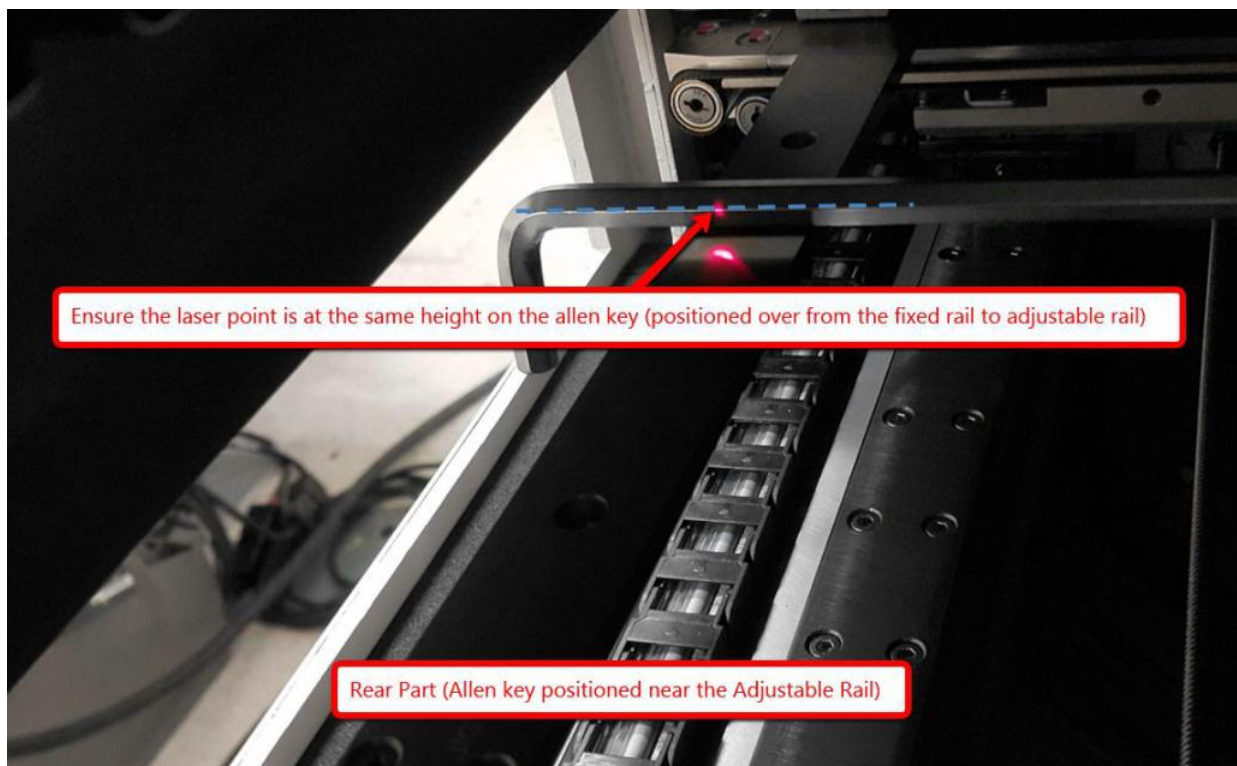
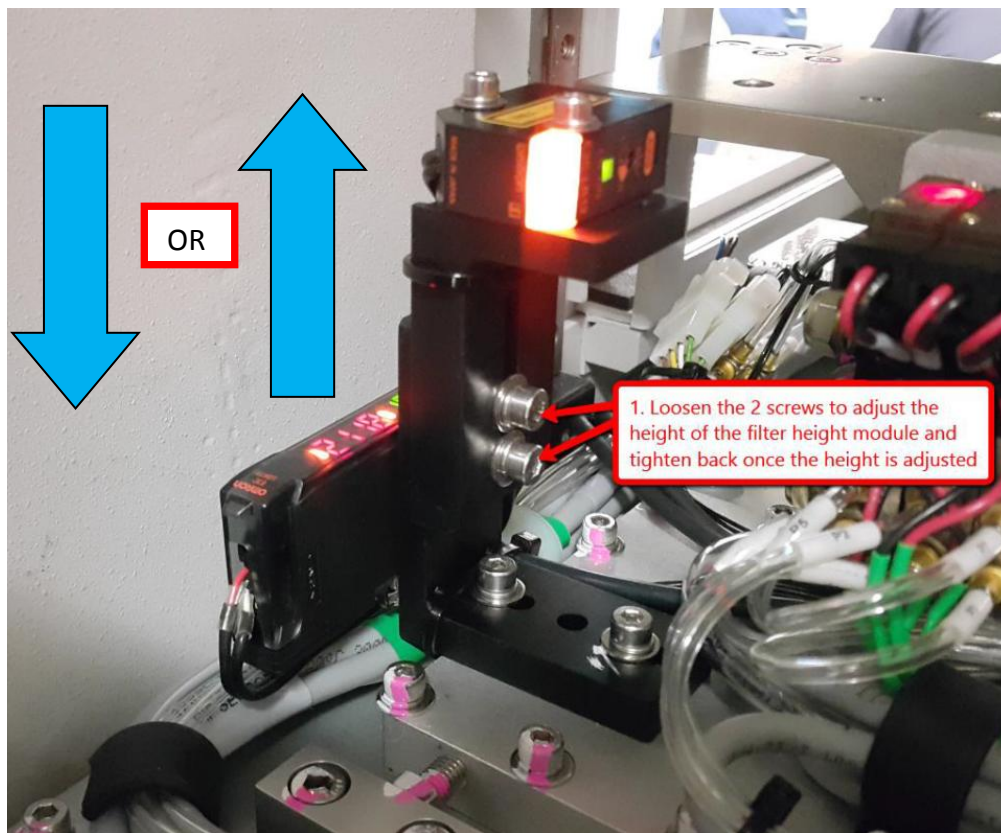

Figure 13 Filter Height Sensor Spot Linear Positioning
Figure 14 Filter Height Sensor Adjustment
3. Position Filter Height Jig on AWA. Place M10 Allen Key respectively at front (Figure 13) and rear (Figure 14). May refer Step 3a ~ 3b to perform **simultaneous adjustment on** sensor height & angle where in order to meet expected result as Figure 13~Figure 14.
- a) Loosen 2 screws to adjust the height of filter height module as Figure 14. Once the height is adjusted, tighten 2 screws.